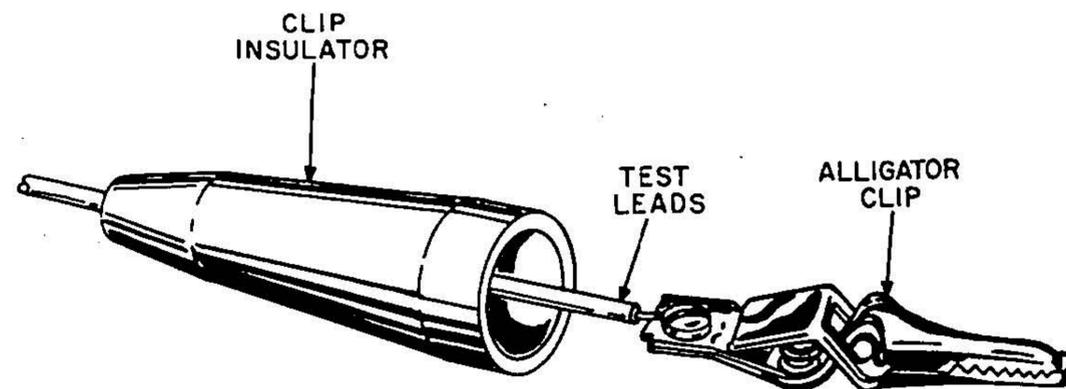

FIGURE 8. TEST LEAD ASSEMBLY
- Place a black insulator on the other end of the black test lead. Place a red insulator on the other end of the red test lead. Now, attach an alligator clip to each of the test leads. See Figure 8.